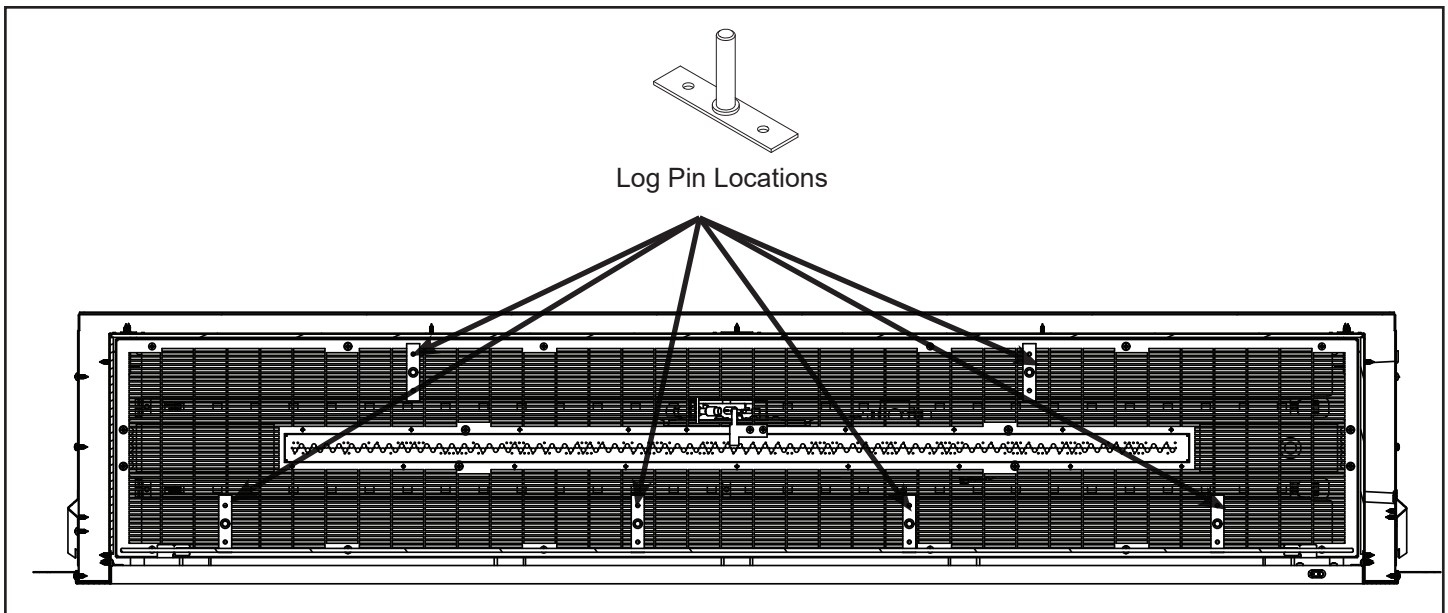

Figure 7.7 – Log Pin Placement for AVFL60N(P)IP AND ODLANAIG-60
- Mount the six log support pin brackets using mounting holes and screws provided in locations indicated in Figure 7.7 for the front logs and rear log. Only one hole of the pin bracket will be used to secure the pin to the